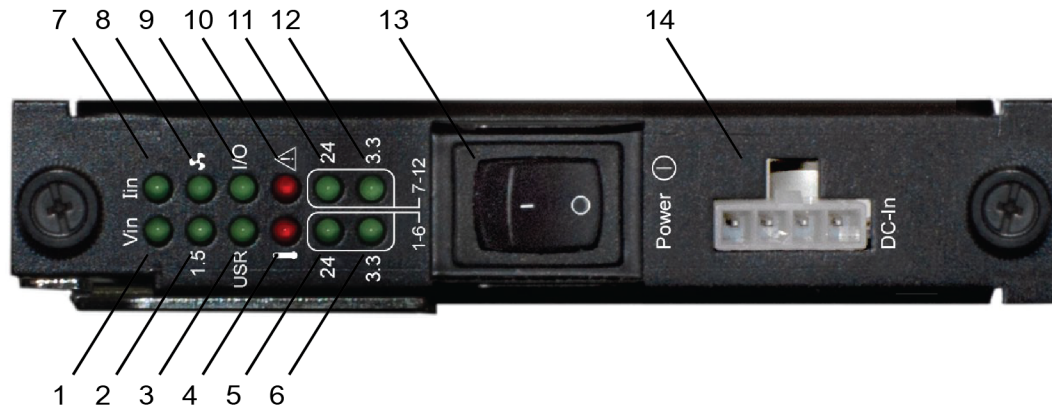

Figure 4-7. UEIPAC 1200R DNR-POWER-DC Front Panel Arrangement
For UEIPAC 1200R RACKtangle-based systems only, additional LEDs are installed on the DNR-POWER-DC module. The ports and LEDs of the 1200R CPU / POWER module are illustrated in Figure 4-7 and described in Table 4-5.
- The ports and LEDs of the DNR-POWER-DC module are illustrated in Figure 4-7 and described in **Table 4-5**.